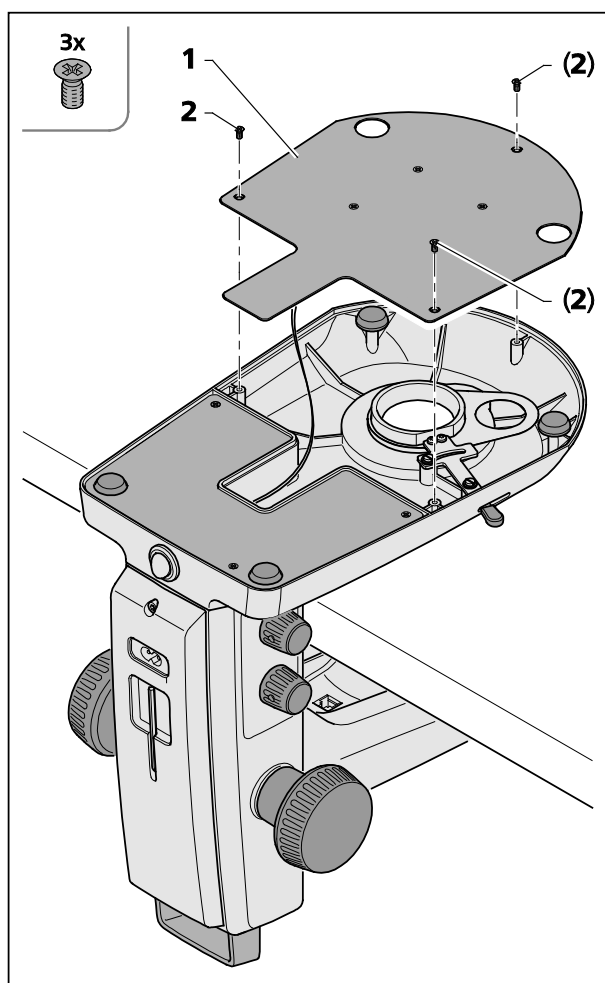

Fig. 28 Opening the stand cover plate,
The stand cover plate (Fig. 28/1) may be removed for cleaning or to remove any foreign matter which might have fallen in inadvertently.
- To this effect, release the three recessed head screws (Fig. 28/2), lift off the stand cover plate (Fig. 28/1) carefully and then put it aside.
- Make sure that the cable is not disconnected from the stand cover plate (Fig. 28/1).